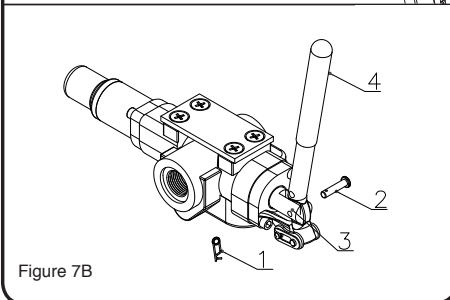

Figure 7B
1. Remove spring cotter pin (#1) and retaining pin (#2) from control valve rod (#3). (See fig. 7B)